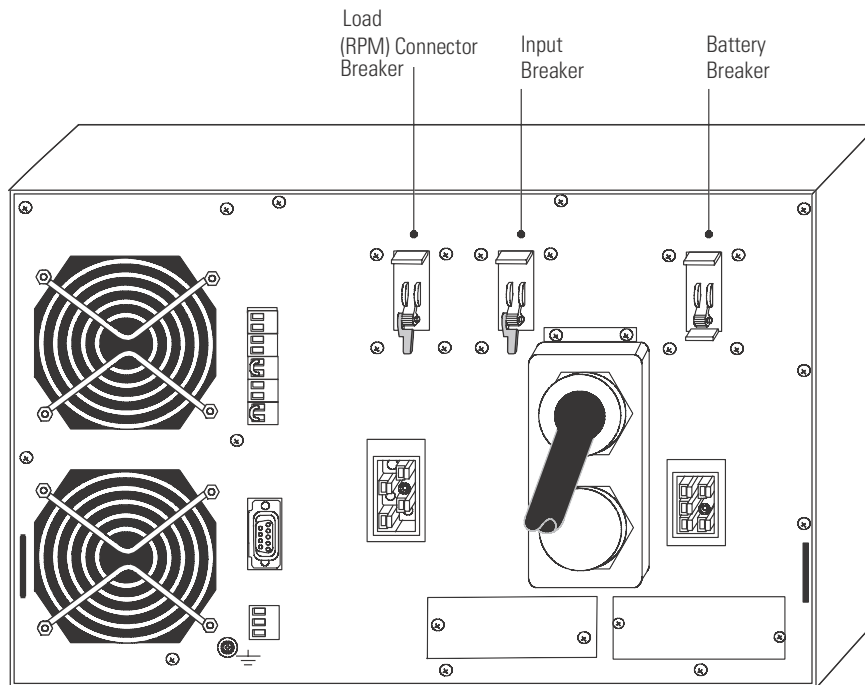

Figure 20. BladeUPS Module Rear Panel
1. Verify that all battery circuit breakers on all UPSs are in the OFF (O) position (see Figure 20).